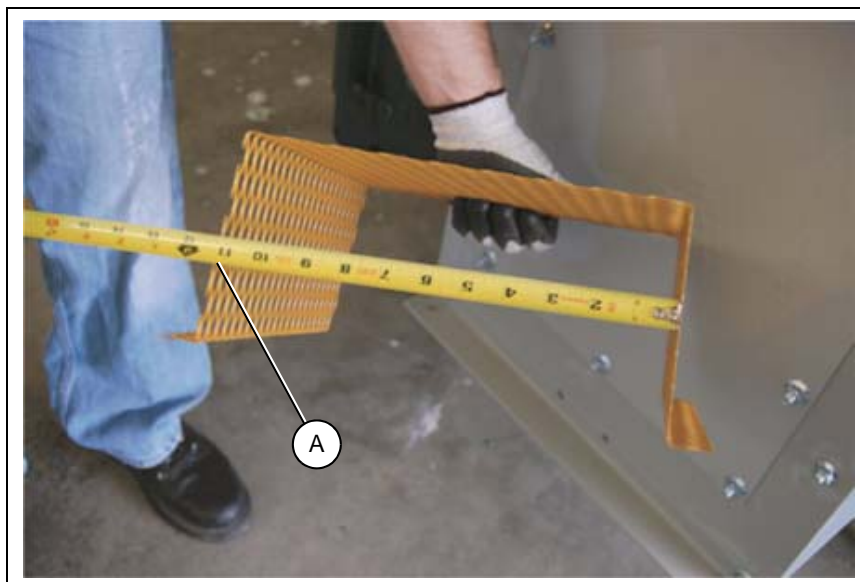

Figure 6Y
1. Measure height of shaft guard shield (A). This will determine the distance between the shaft guard clips. *(See Figure 6Y.)*